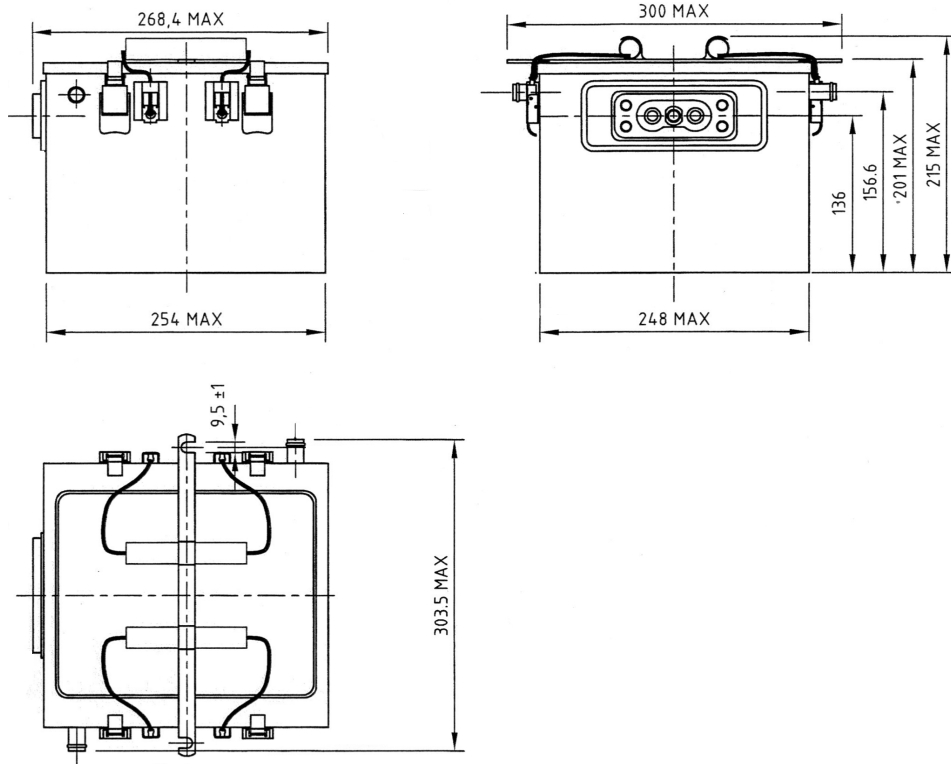

Figure 1 Overall dimensions
**NOTE:** All ( ) part identification numbers herein are IPL Fig. 1 item numbers and are using hypertext facility.